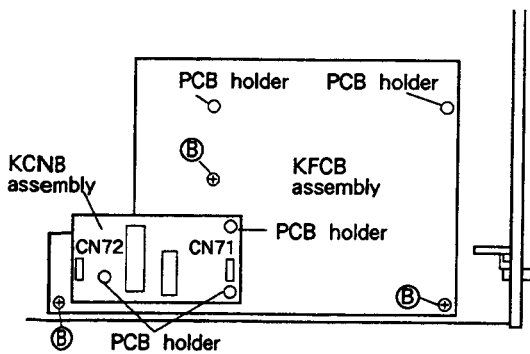

Fig. 7-5
7.3 REMOVING THE KCNB, KFCB AND MAIN ASSEMBLIES (Fig. 7-5, 6)